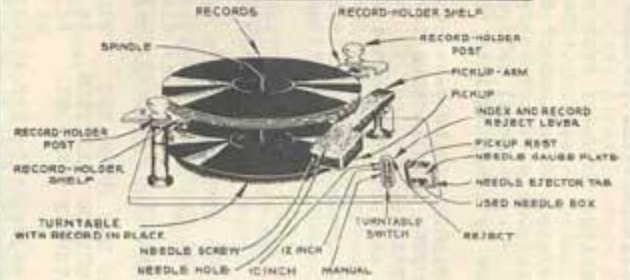

FIG. 3
**PHONOGRAPH** Model 8F12 contains an Automatic Record Changer which plays either eight 10" records or seven 12" records automatically. In Figure 3 is illustrated the method of operation. Your dealer will instruct you on the proper use of this part of the receiver.